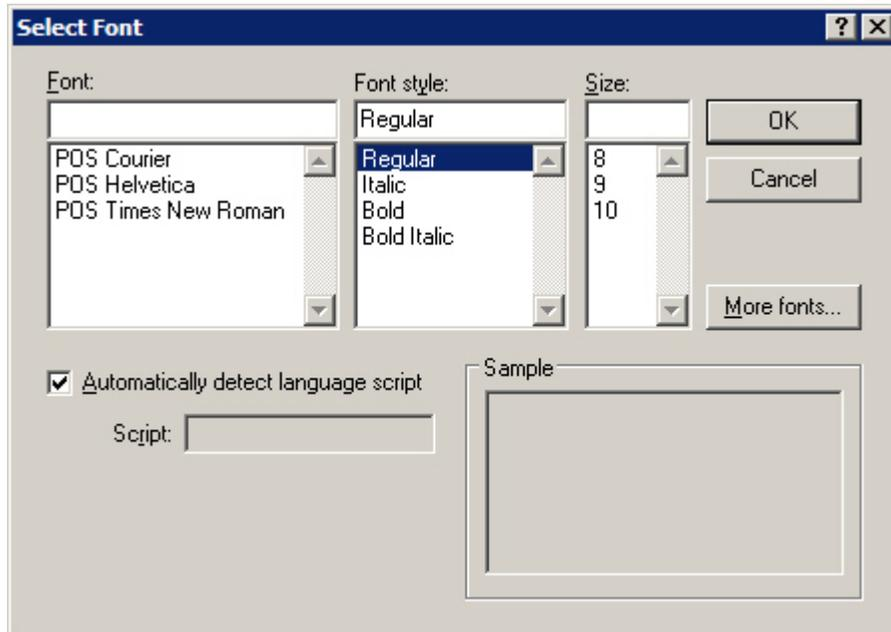

Figure 28. Select Font window
- Click **Select** for Font 1 or Font 2. The Select Font window opens (see Figure 28).
4. Click **Select** for Font 1 or Font 2. The Select Font window opens (see Figure 28 on page 40).